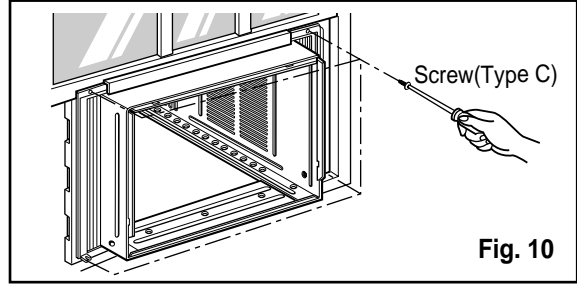

Fig. 10
6. Attach each Frame curtain the window sash by using screws (Type C.) (See Fig. 10)